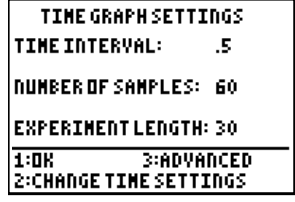
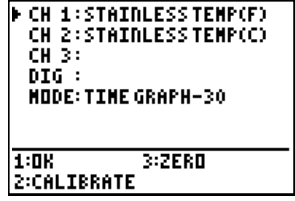

Figure 12
Figure 13
- When the settings have been entered, press Ψ for **OK**. You will now be given a display of the overall experiment settings (Figure 12). When you agree with the settings, press Ψ for **OK** again (Figure 13).